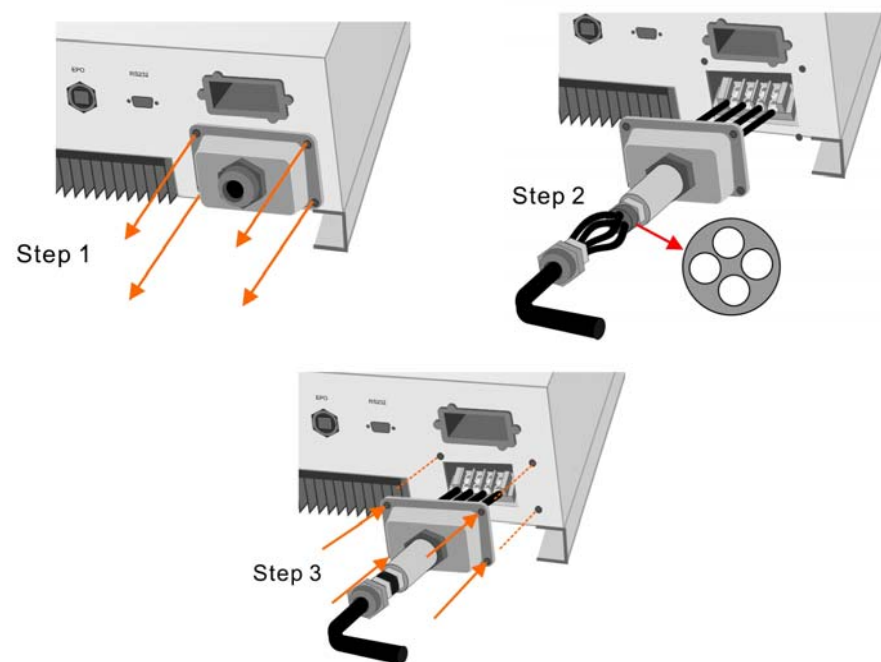

Fig. 2
Step 3. Remove the screws that secure the case of the Enersolis and carefully remove the cover. Remove the connection from the cover as shown in Fig. 2.